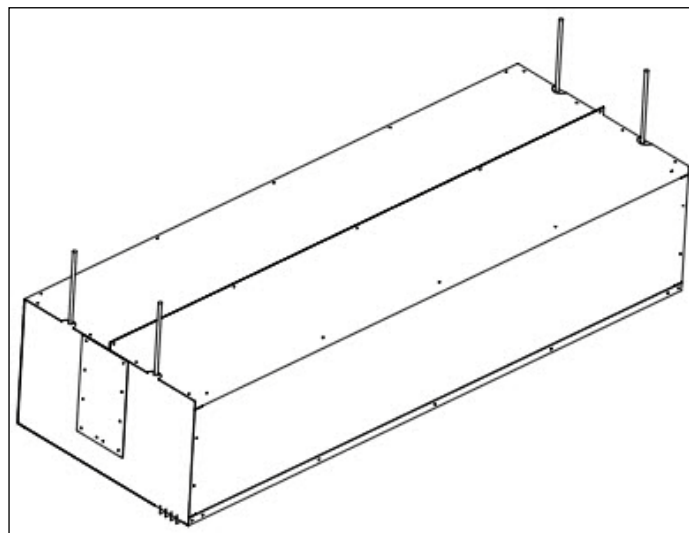

FIG. 2
4. All units are equipped with (4) 3/8" threaded inserts on top for overhead installation (FIG. 2)